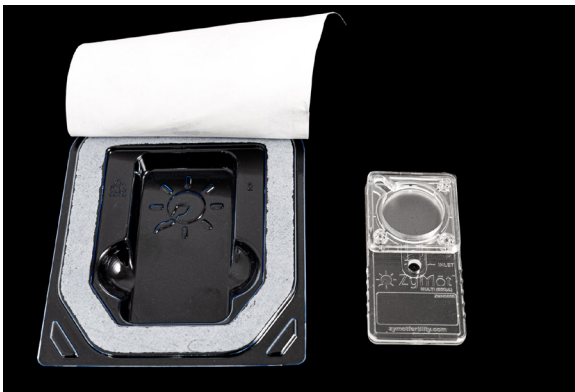

Figure 1. Opened package and device.
3. Carefully open the device package (Figure 1) without touching the device membrane.